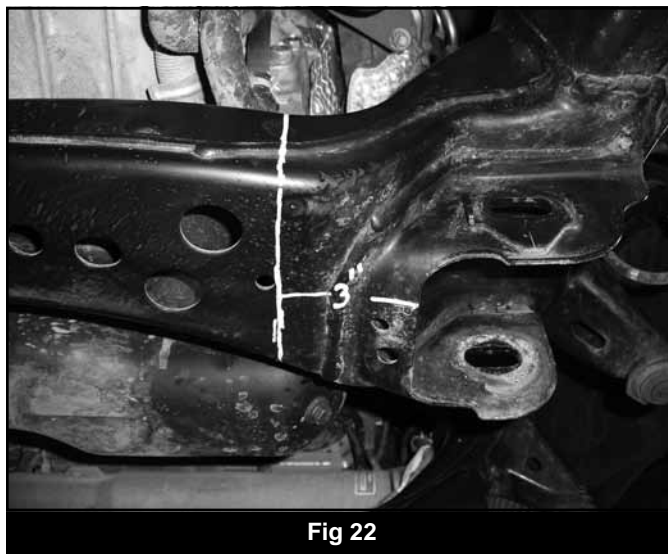

Fig 22
28. On the passenger side, measure in and mark 3" from the inside edge of the control arm pocket (Fig 22). Extend the line along the bottom of the crossmember (parallel to the inside edge of the control arm pocket) and up the front and back faces of the crossmember.